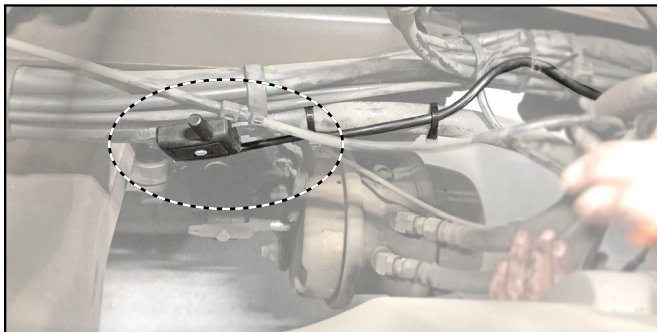

Figure 6: Repeater mounting - truck example
2. Secure the Repeater to the tractor/truck/trailer using wire ties. It is best to mount to the existing air line and wire harness bundle, if possible. See *Figures 6 & 7*.